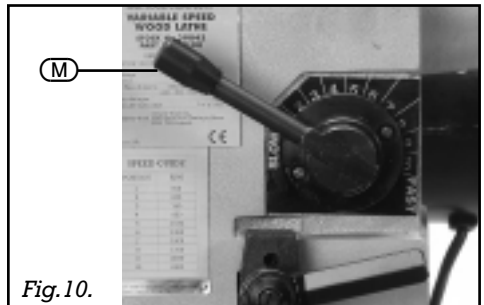

Fig. 10.
With the machine running, pull the lever (M) away from the headstock then move it around to the desired speed. The handle indicates the speed. For example, Fig. 10 is set on speed 1. The Lathe should be in speed 1 (the slowest) before turning off to aid ease of start up. Fig. 10.